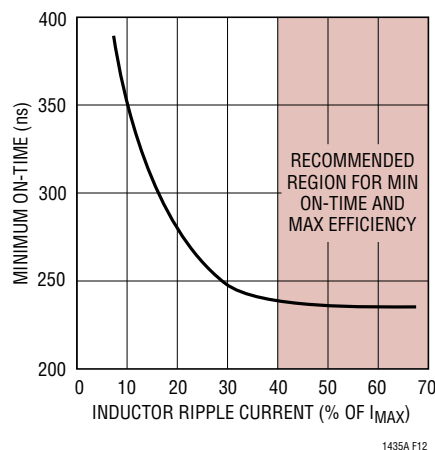

Figure 12. Minimum On-Time vs Inductor Ripple Current
The minimum on-time for the LTC1436A/LTC1437A in a properly configured application is less than 300ns but increases at low ripple current amplitudes (see Figure 12). If an application is expected to operate close to the minimum on-time limit, an inductor value must be chosen that is low enough to provide sufficient ripple amplitude to meet the minimum on-time requirement. To determine the proper value, use the following procedure:
2. Use Figure 12 to obtain the peak-to-peak inductor ripple current as a percentage of  $I_{MAX}$  necessary to achieve the calculated  $t_{ON(MIN)}$ .
3. Ripple amplitude  $\Delta I_{L(MIN)} = (\% \text{ from Figure 12}) (I_{MAX})$  where  $I_{MAX} = 0.1/R_{SENSE}$ .
The  $\Delta I_L$  was previously calculated to be  $1.3\text{A}$ , which is  $43\%$  of  $I_{\text{MAX}}$ . From Figure 12, the LTC1436A/LTC1437A's minimum on-time at  $43\%$  ripple is about  $235\text{ns}$ . Therefore, the minimum on-time is sufficient and no cycle skipping will occur.